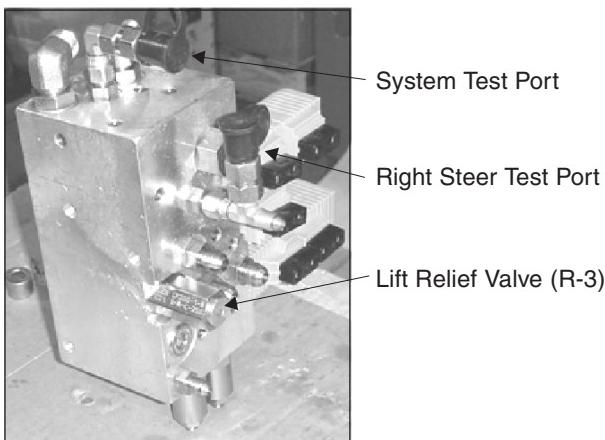

Figure 7.12—Test Ports and Lift Relief
1. Attach test gauge to the system test port (figure 7.12).
1. Attach test gauge to the right steer test port (figure 7.12).
4. To adjust the relief setting, remove the external cap from the lift relief valve (figure 7.12).